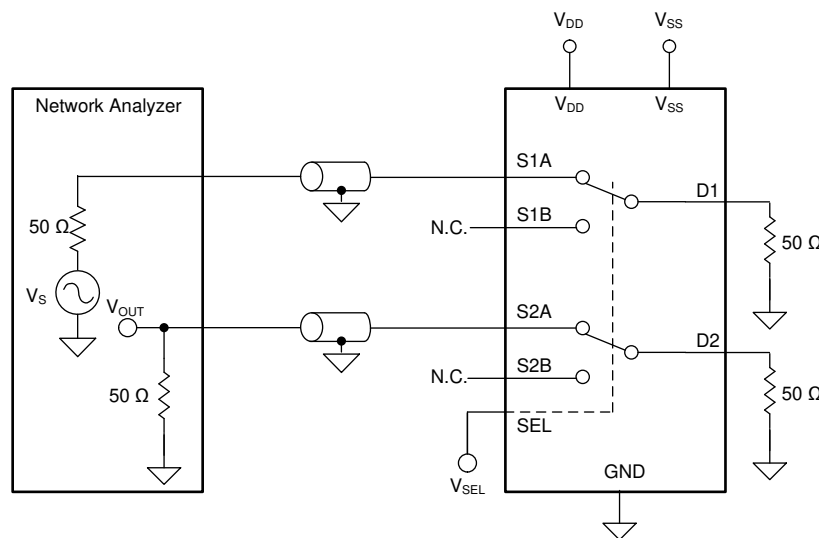

Figure 6-9. Inter-Channel Crosstalk Measurement Setup
2. Inter-channel crosstalk: the voltage at the source pin (Sx) of an on-switch input, when a 1-VRMS signal is applied at the source pin of an on-switch input in a different channel, as shown in Figure 6-9.